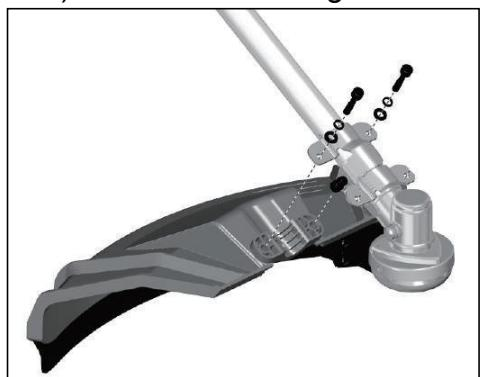
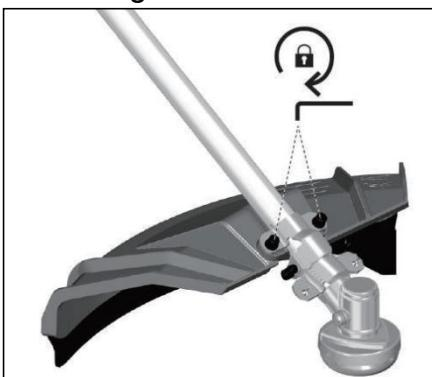

Fig.3-1
Fig.3-2
### Assembly the guard (Fig.3-1, Fig.3-2)
- 1) Place the guard on the **fixture**. (fig3-1)
- 2) Assemble and tighten the screws. (fig.3-2)